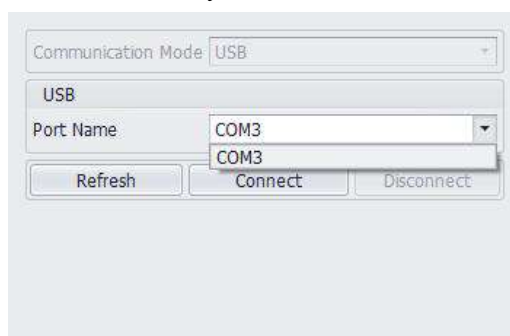

Figure 3-2 Refreshing the port
- ④ Click on the "**Refresh Port**" button and in the "**Port**" drop-down box, you can see the port number that has been connected, as shown in Figure 3-2. If the "**Port**" is not displayed, the reason may be that the USB driver is not installed or the USB cable is not connected correctly, please recheck whether the driver is installed correctly or the USB cable is connected properly.